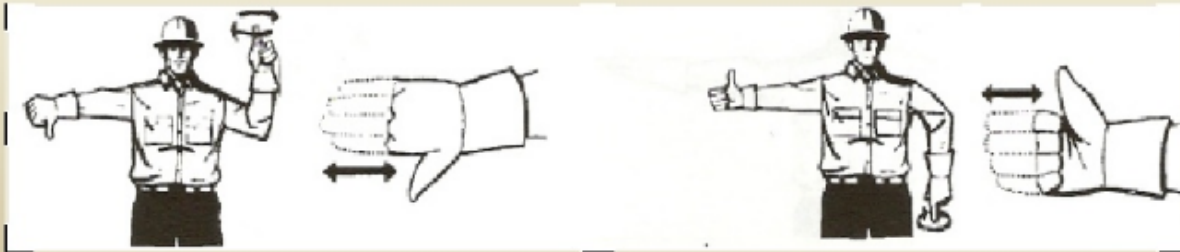

Figure 7 Lower the Boom-Raise the Load and Raise the Boom-Lower the load.
4. When you are using only one hand, your thumb indicates the direction of the boom and flexing your fingers indicates the movement of the hook (Figure 7).